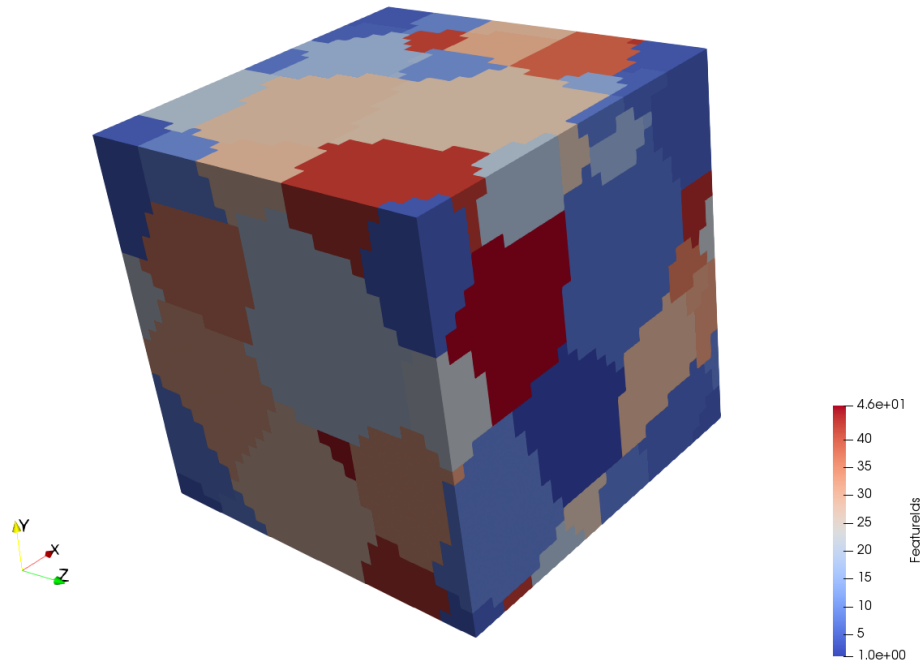

Figure 14: Sample microstructure visualized in ParaView
12. Copy the **Write DREAM3D Data File** filter to the pipeline window(Fig. 13). This is performed so that the microstructure can be visualized in a visualization software like ParaView(Fig. 14).
Referring to the filter **Initialize Synthetic Volume**, let N_1 , N_2 , and N_3 be the number of voxels in directions 1, 2 and 3 respectively. Then **grainID.txt** contains grain IDs for all the voxels specified in an arrangement consisting of N_3 columns and $N_1 * N_2$ rows. Referring to Fig. 14, there is a coordinate system associated with the microstructure aligned with the box edges. These are labelled as x, y and z. Every voxel can be uniquely identified by its position with respect to this coordinate system and for the structured grid, integer descriptors will suffice. For example, the corner voxel next to the origin may be indexed as (1, 1, 1) because it is in the first voxel in x, y and z directions respectively. Using this notation, any voxel can be indexed as (i, j, k) with $i \in \{1, 2, \dots, N_1\}$, $j \in \{1, 2, \dots, N_2\}$, $k \in \{1, 2, \dots, N_3\}$. Then the grain ID of such a voxel will be present in the $[j + (i - 1) * N_2]^{th}$ row and in the k^{th} column of **grainID.txt**. A snapshot of the file is included in Fig. 21.